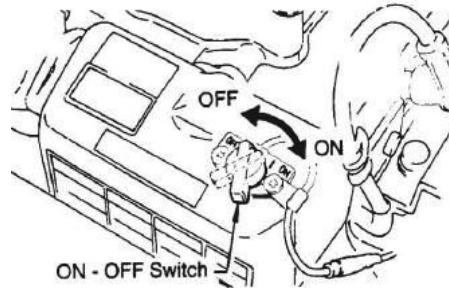
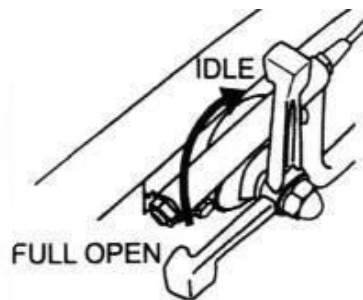

Fig 6
Fig 10
2. Set the engine ON/OFF switch (Fig 6) to the **ON** position (start).
1. Move throttle lever quickly from the **FULL OPEN** to **IDLE** position (Fig 10) and run the engine for three minutes at low speed. After the engine cools, turn the engine start/stop switch to the “**STOP**” position (Figure 6) until engine comes to a complete stop.